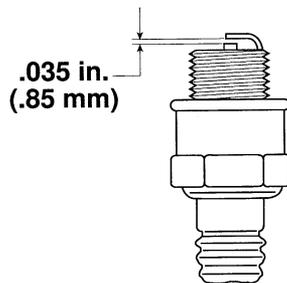

Figure 21
2. Set spark plug gap at .035 inch (.85 mm) (Fig. 21).